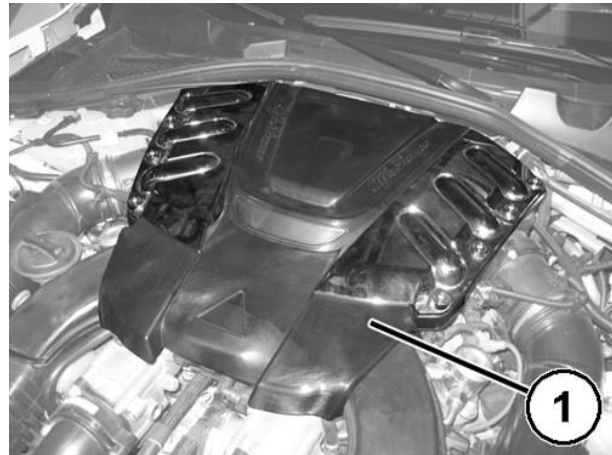

Figure 41 – Soundproofing Cover
25. Release the soundproofing cover (1) from the retaining pins and remove it (Figure 41).